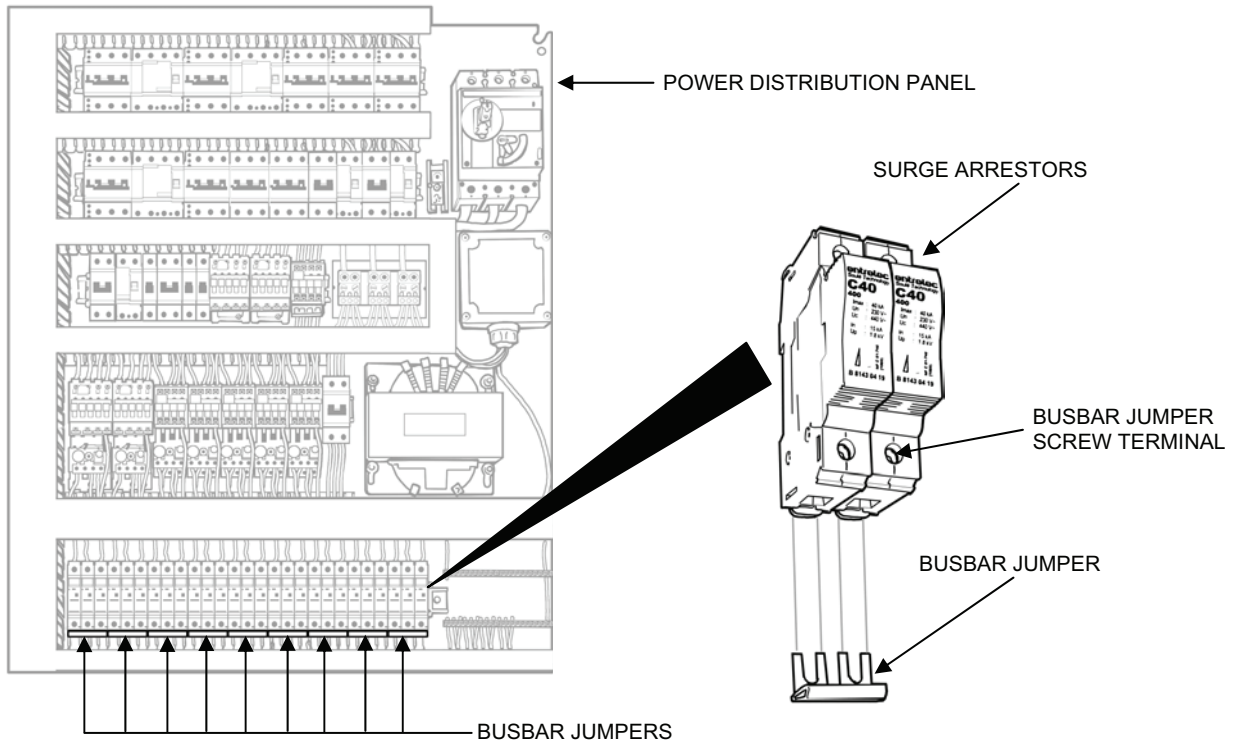

Figure 8. Busbar Jumper Replacement.
1. Remove a busbar jumper as follows (see Figure 8):